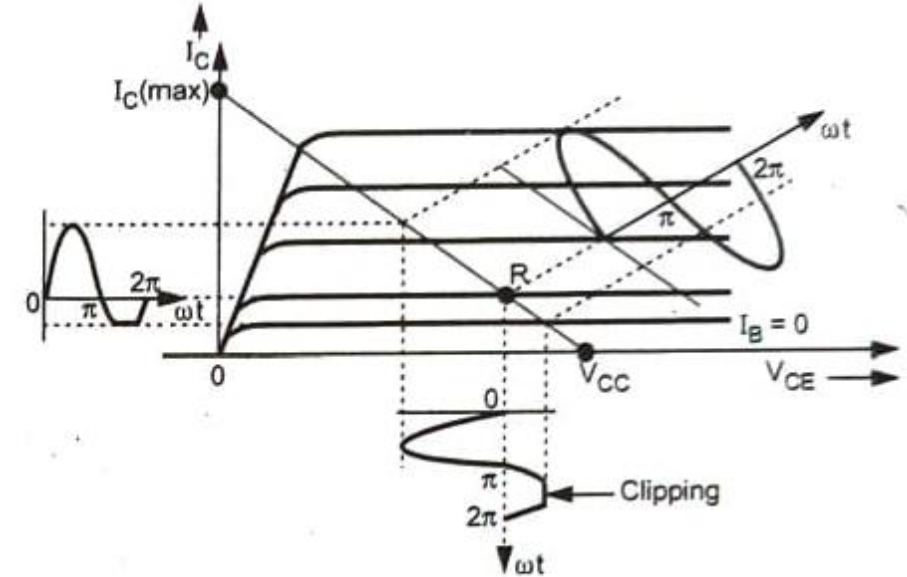

Fig. 2.3.7 Operating point near cut-off region gives clipping at the negative peaks
- In Fig 2.3.7: Biasing circuit is designed to fix a Q point at point R, the collector current is clipped at the negative half cycle.